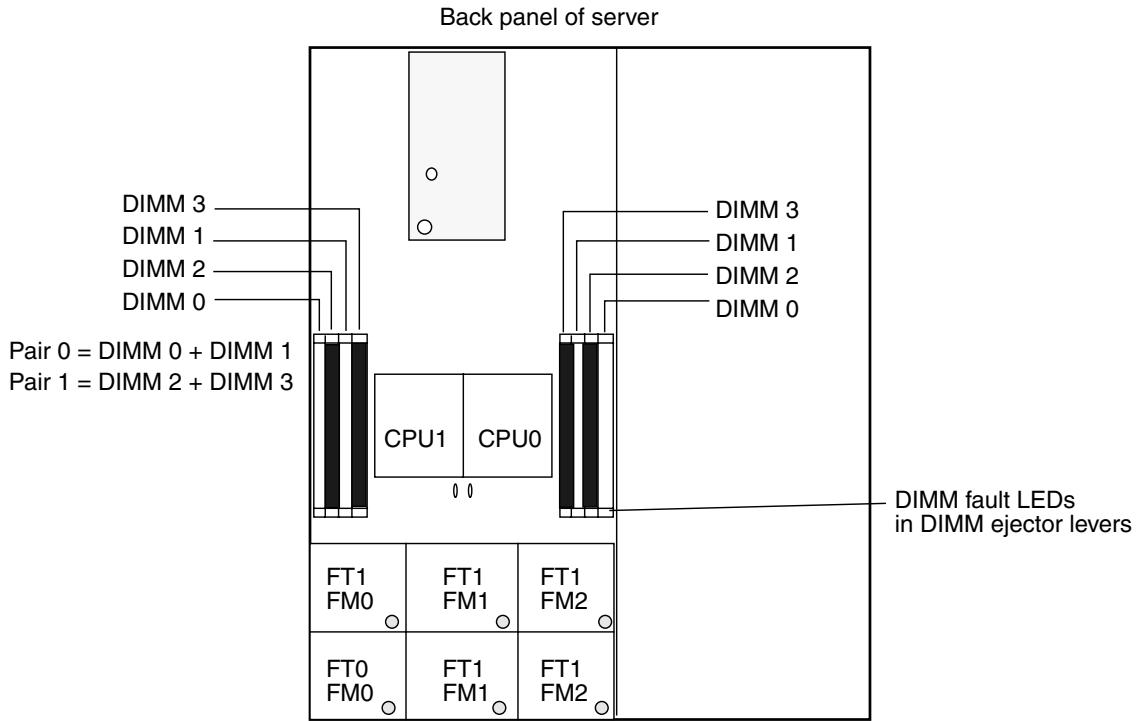

FIGURE 1-4 Sun Fire X4100 and Sun Fire X4200 DIMM Slot Locations
FIGURE 1-4 shows the numbering of the Sun Fire X4100/X4200 DIMM slots.
3. **Inspect the fault LEDs on the DIMM slot ejectors and the CPU LEDs on the motherboard. See FIGURE 1-4.**